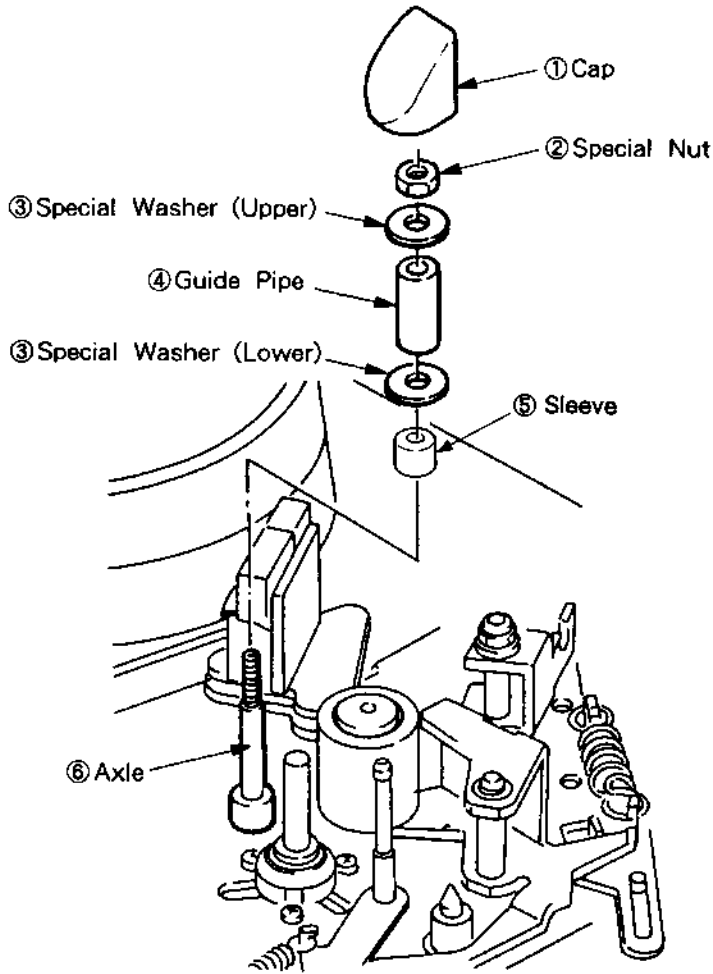

Fig. 2-10-3. Fixed Guide (T)
2-10-3. FIXED GUIDE (T) (See Fig. 2-10-3.)